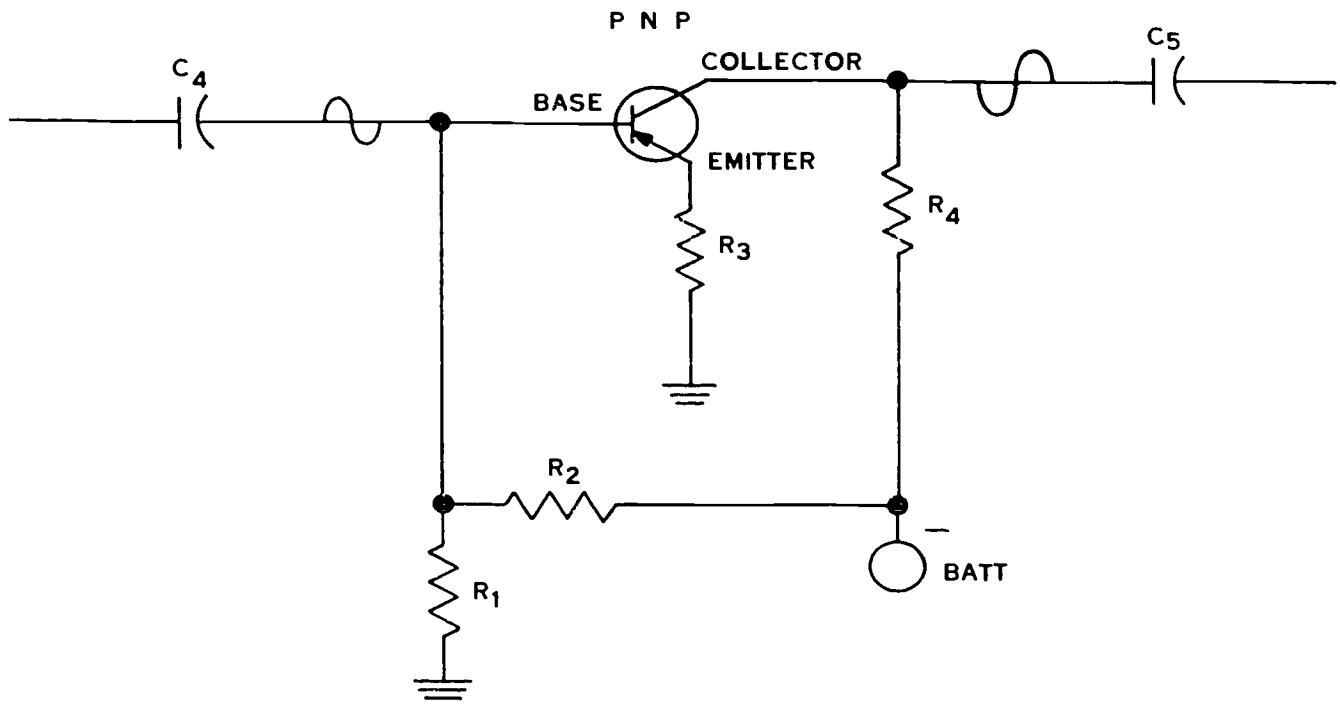

Figure 5-4. Common-emitter amplifier schematic diagram.
Common-Emitter Amplifiers. Common-emitter amplifiers provide high voltage and power gain; thus, they are used almost exclusively in amplifier circuits. In addition, they yield a moderate current gain. Figure 5-4 reveals an amplifier stage that has the emitter connected to a grounded resistor—with the base receiving a signal from a coupling capacitor. Another feature of this type of amplifier is the phase-reversal between the base and the collector. Therefore, a positive signal at the base results in an amplified negative signal at the collector. Note that the operating principle for this amplifier is opposite to the principle which you noted in the common-base amplifiers. Although the contrasting factors are the biasing battery and the incoming signal, the positive incoming signal for the emitter amplifier opposes the bias voltage. This is contrary to the effect you noted in the common-base amplifier. Hence, the negative signal at the common-emitter amplifier also is opposite in effect to the negative signal at the common-base amplifier.
Assuming that a fuse protecting the equipment containing the circuit of figure 5-4 has blown, you should suspect a reduction in resistance in the battery circuit. Resistors R_1 , R_2 , and R_3 are probable suspects. Of course, to determine if one is short-circuited, you must disconnect each resistor from the circuit and measure for 0 ohms resistance.
1. What is a probable defect in the circuit of figure 5-4 if the signal at C_3 is distorted?